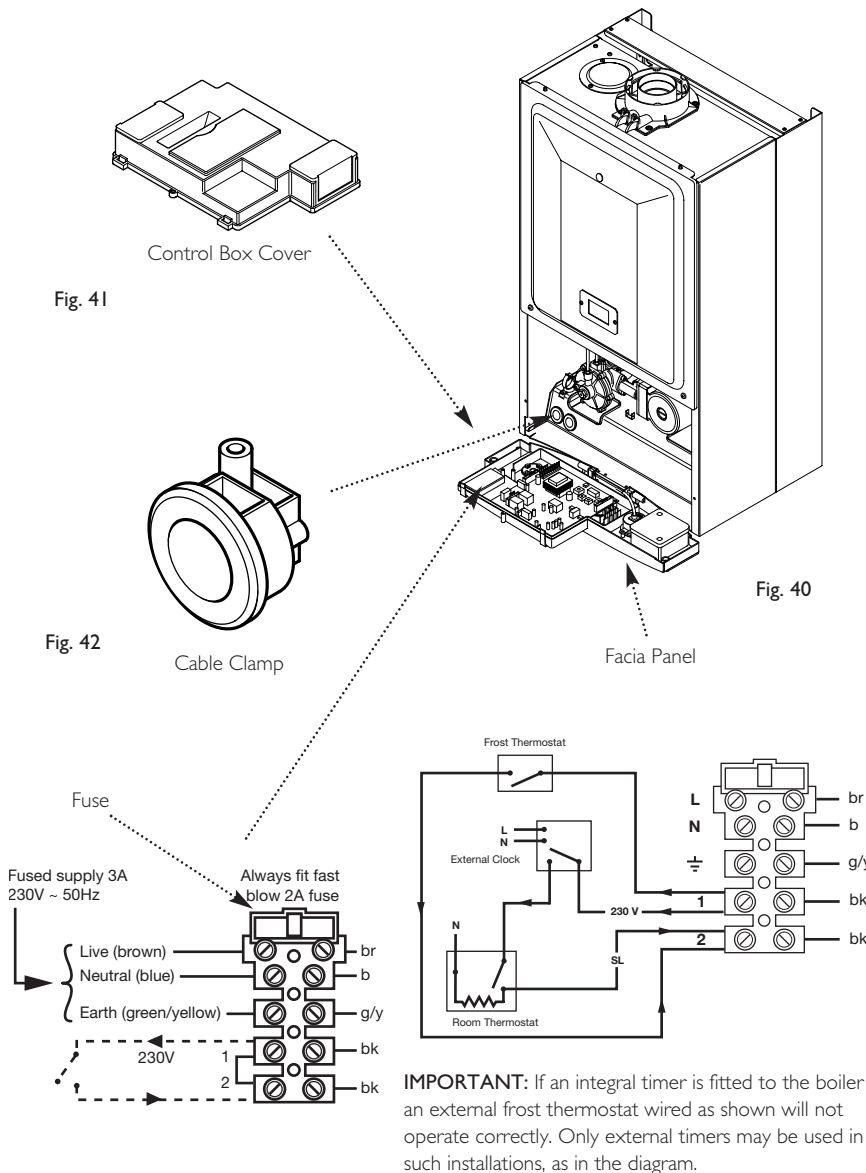

Fig. 43
7. To connect external control(s) remove the link between terminals 1 & 2. The 230V supply at terminal 1 must be connected to the external control. The switched output from the external control must be connected to terminal 2 (Fig. 43).
**NOTE:** If the room thermostat being used incorporates an anticipator it **MUST** be wired as shown in Fig. 43